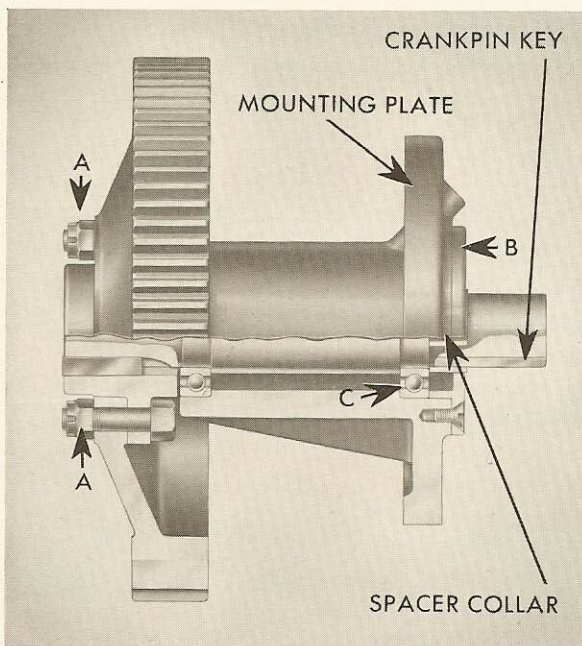

FIGURE 14-4
12. REMOVAL OF THE PLATE, SHAFT AND GEAR: Open up the door of the eccentric pit on the manifold side of the engine. Disconnect the foot of the air compressor connecting rod from the eccentric strap. Do not lose any of the shims that may be under the foot of the rod, as these govern the height of the piston in the air compressor cylinder. Tie the rod over to one side of the pit. Remove the bolts (A) Figure 14-4 and the gear can be taken out.
The brass plate (B) Figure 14-4 is the retainer ring for the ball bearing (C) and is removed next. This ring is held on by large countersunk machine screws. After this retainer ring has been taken off, the shaft and gear hub can be pushed into the eccentric pit and removed through the door. Do not lose the spacer collar which fits around the shaft and lies between the cone of the after ball bearing and the crank.